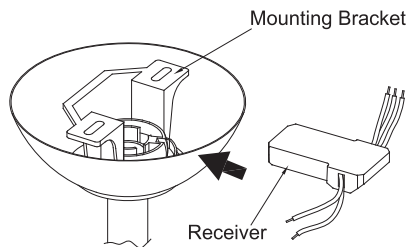

**Fig. 14**
**Step2.** Insert the safety cable through the mounting bracket and one of the holes in the outlet box into the ceiling. Adjust the length of the safety cable to reach the screw and washers by pulling the extra cable through the cable clamp until the overall length is correct, put the end of the cable back through the cable clamp, forming a loop at the end of the cable. Tighten the cable clamp securely. Now, put the loop in the end of the safety cable over the wood screw and under the washer. Tighten the wood screw securely. (Fig. 14)